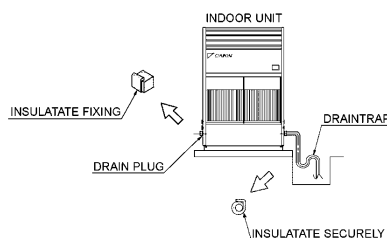

FIG 6
- Assemble the unit as shown in FIG.6.
It is necessary to connect drain pipe both upper and lower point (FIG.6)
- After closing the drain pipe on the opposite side of the unit, completely wrap the drain pipes with insulation (FIG.6).